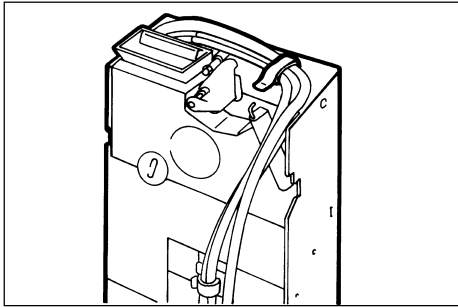

Fig. 19
- Pass the coiner cables through the cable stopper, making sure they do not block the coin inlet or prevent the correct operation of the coiner release lever (Fig. 19).